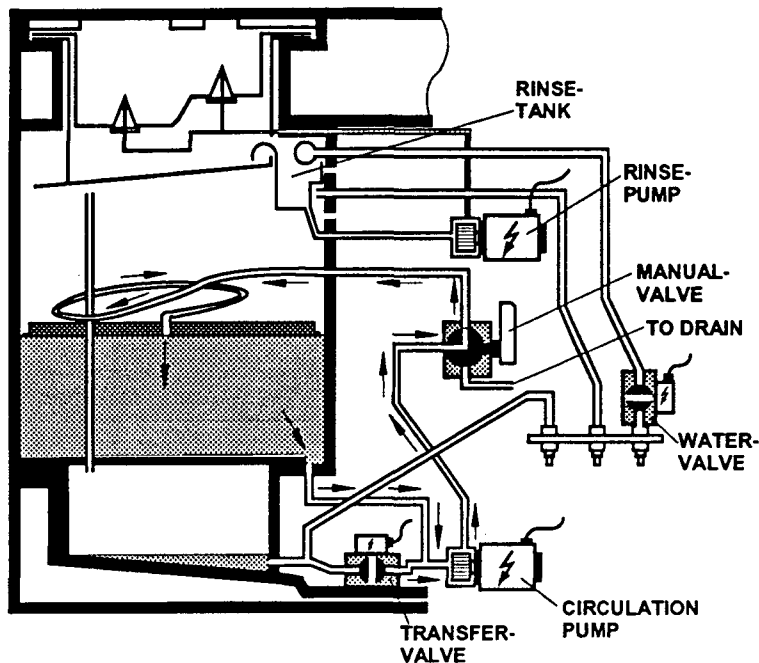

figure 6-8
- 14.** The CIRCULATION PUMPS are be activated to mix the solution for 10 minutes (see figure 6-8).